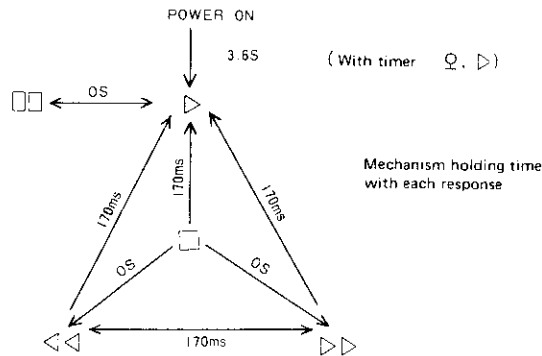

Fig. 13
- Fig. 13 shows the mechanism timing and audio muting timing with respect to the above operations.